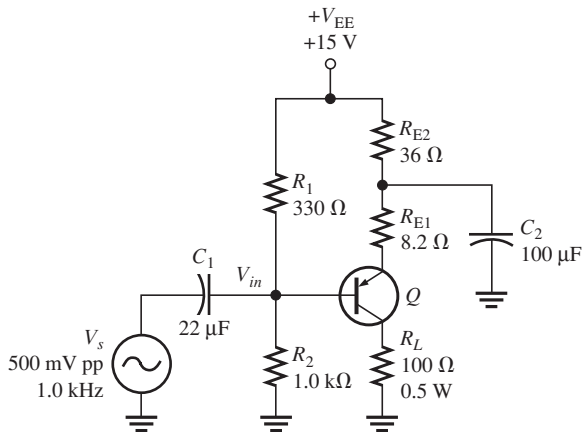

FIGURE ANS-13
27. The changes are shown in Figure ANS-13. The advantage of this arrangement is that the load resistor is referenced to ground.